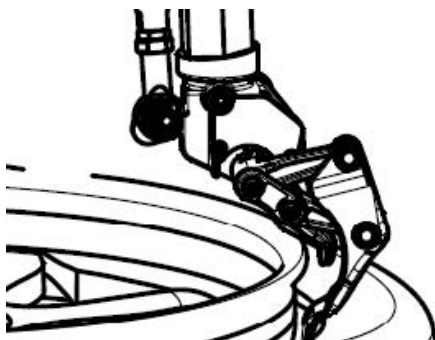

FIG 29
- Pull down the control valve (**FIG3-22**) of demounting hook to make the demounting hook enter the inner side of tire lip. If the demounting hook does not insert into the inside of tire lip when down to the bottom, step the rotation pedal to rotate the turntable a little to make the hook insert into the inside of tire lip like the **FIG29**. If the tire lip is harder, use the press plate of assist arm to press down the tire lip so that the hook can insert into the inside of tire lip smoothly.